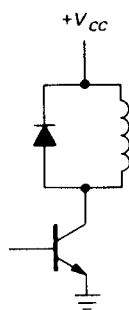

Figure 2.4. Always use a suppression diode when switching an inductive load.
3. For inductive loads, protect the transistor with a diode across the load, as shown in Figure 2.4. Without the diode the inductor will swing the collector to a large positive voltage when the switch is opened, most likely exceeding the collector-emitter breakdown voltage, as the inductor tries to maintain its “on” current from  $V_{CC}$  to the collector (see the discussion of inductors in Section 1.31).